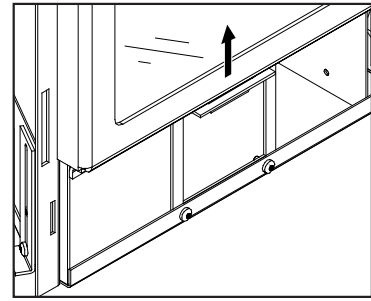

Figure 9: Bottom hooks for glass door.
Open the door by removing the two (2)  $\frac{5}{16}$ " bolts located at the top outside corners of the glass frame (see Figure 8). Lift the bottom of the door up and remove from unit (see Figure 9).
- Refer to Figure 9 for additional required floor protection dimensions with different width hearths.